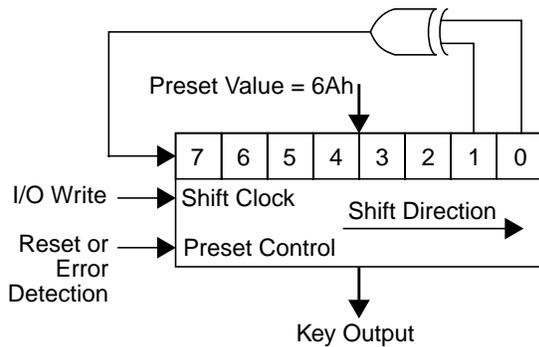

Figure 5-6. Initiation Key Generation (LFSR)
1. On reset, the chip writes a value of 6Ah to the 8-bit Linear Feedback Shift Register (LFSR). See Figure 5-6. The feedback taps (values) for this shift register are taken from bits 1 and 0 of the LFSR Register.